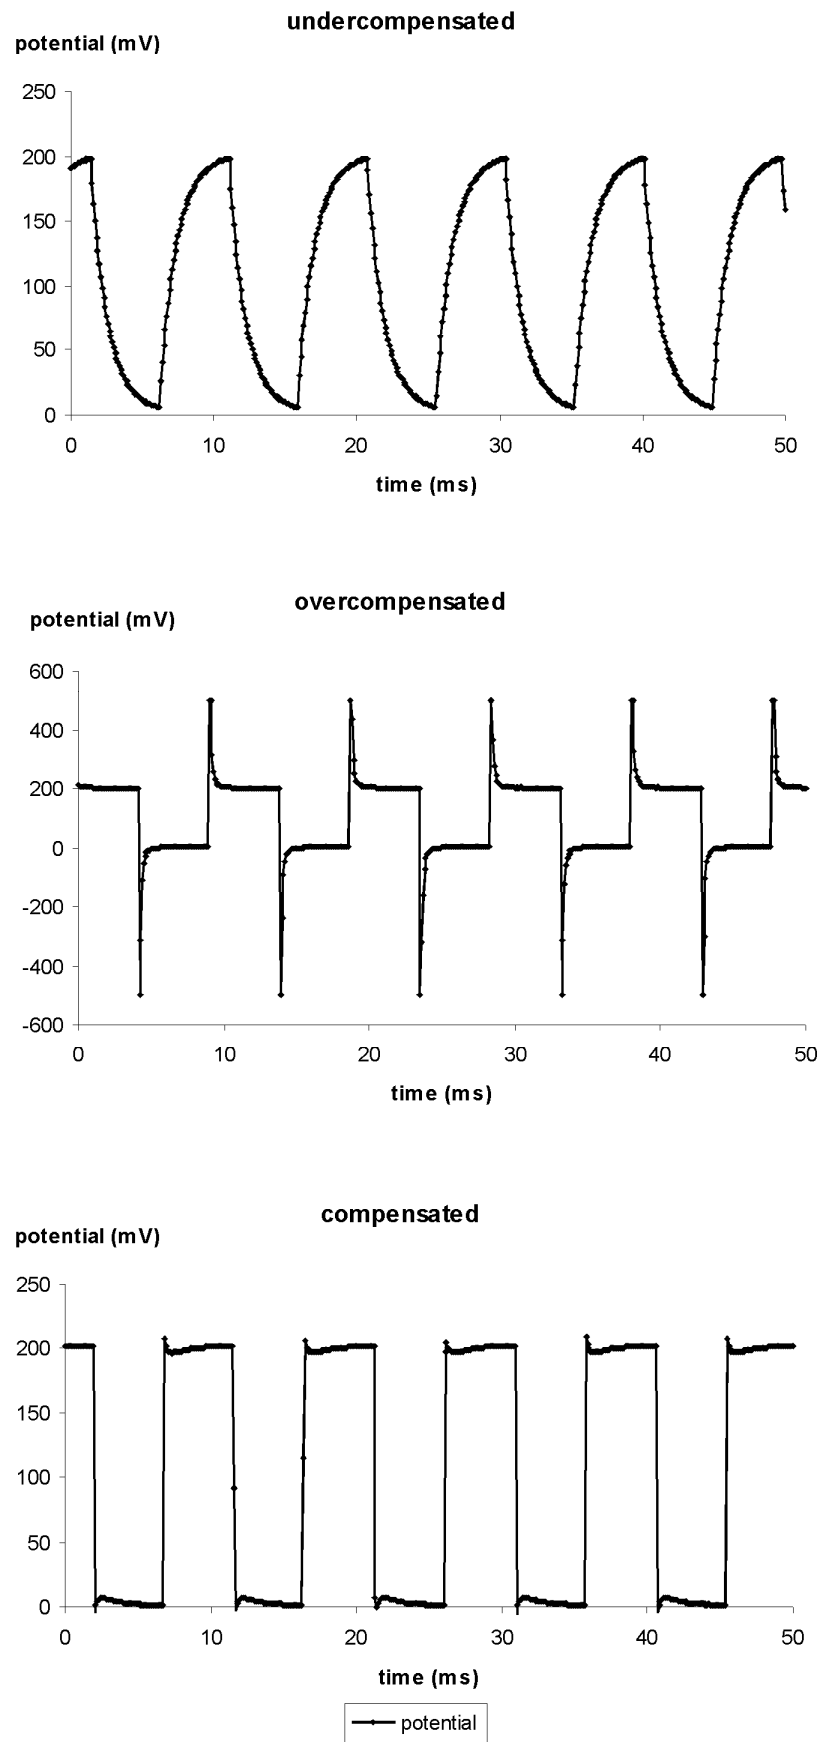

Figure 9: Tuning of the capacitance compensation using a 100 M $\Omega$  resistor
With the cell model connected or the electrode in the bath the CAPACITY COMP. control is turned clockwise until there is no capacitance artifact on the POTENTIAL OUTPUT (see Figure 9).
- ☐ Compensate the input capacitance as shown in Figure 9 using the CAPACITY COMP. potentiometer (#17, Figure 1).
Figure 9 illustrates the capacitance compensation procedure using a 100 M $\Omega$  resistor that represents the electrode. The pulses were generated using the automated electrode resistance test circuit of the BA-03X. The upper diagram shows an undercompensated capacitance. In the diagram in the middle the capacitance is slightly overcompensated and in the lower diagram it is well compensated.
- ☐ Immerse the electrode into the bath (not in a cell) as deep as necessary during the experiment. Test the capability of the electrode to carry current (see chapter 7.4), compensate the potential offset (see chapter 7.2), measure the electrode resistance (see #33, chapter 3.2) and compensate the input capacitance (see chapter 7.3 and Figure 9).